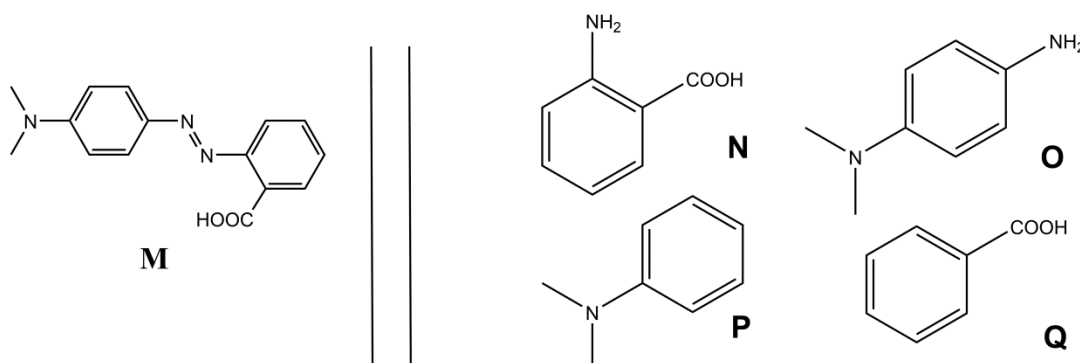

Fig. 1 – Possible reactants for the synthesis of *M*.
2. **M** can be synthesized in two steps from simple reactants (Fig. 1). **Choose** among the suggested reactants (**N** to **Q**) the ones that can provide **M** with very high regioselectivity. Sodium nitrite ( $\text{NaNO}_2$ ) in cold aqueous hydrochloric acid is used as reagent for the first step of the synthesis.